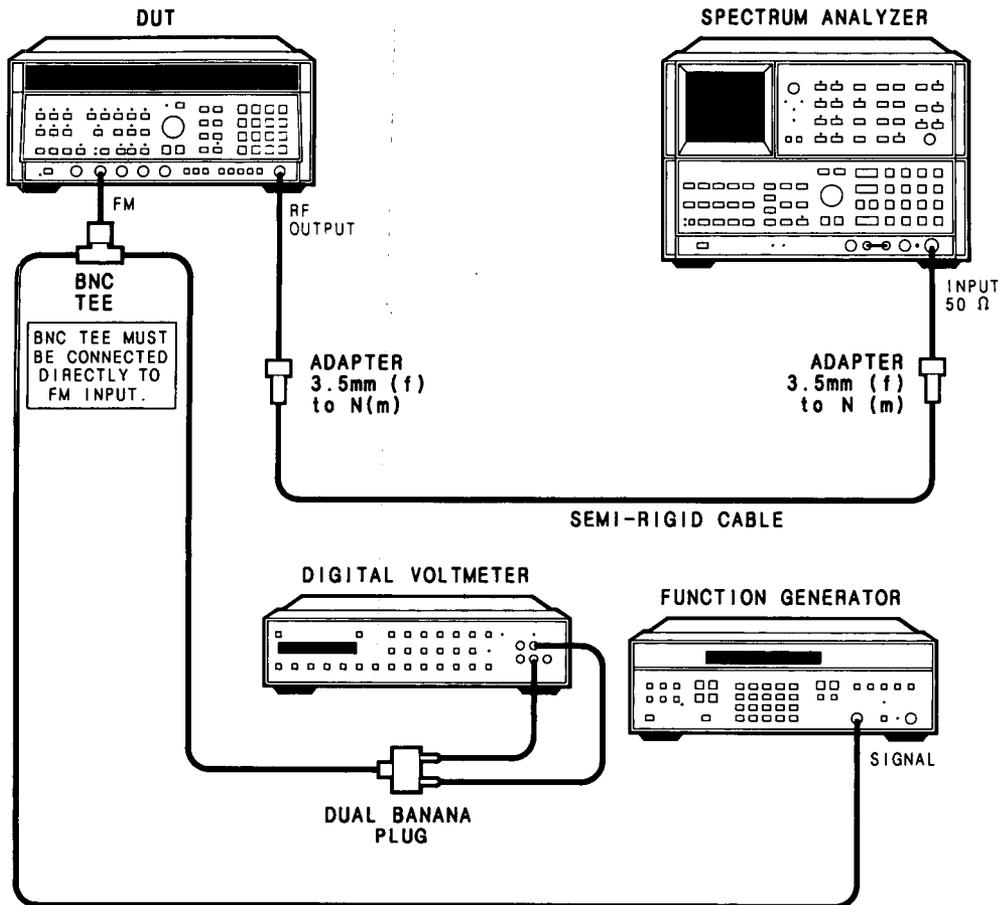

Figure 4-19. FM Accuracy Setup
1. Connect the equipment as shown in Figure 4-19, FM Accuracy Setup. The BNC Tee should be connected directly to the DUT's FM input BNC.